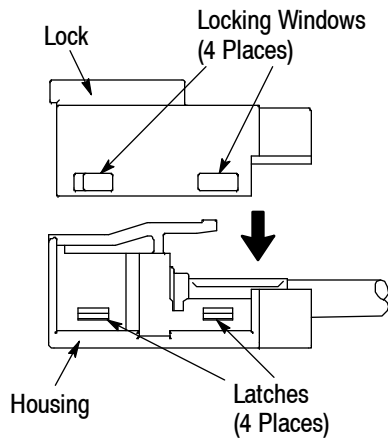

Figure 8
9. Align the locking windows of the lock with the latches of the housing. See Figure 8. Push the lock onto the housing until it “snaps” into place. Check that all latches are fully engaged. If any latch is not fully engaged, press down on the top of the lock while pressing inward on the sides of the lock.